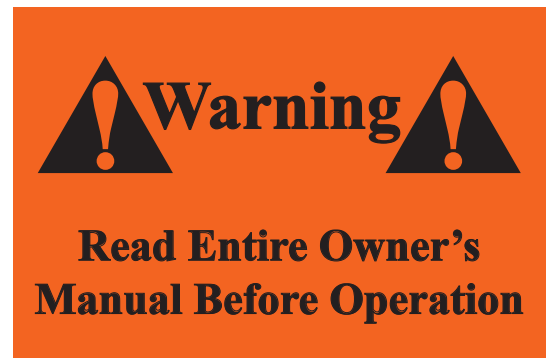

Figure 1: Owner's Manual Decal (DE39)
- Be aware of the location of the owner's manual warning decal on the foam marker's frame. Always replace any warning decals that are not legible or are missing (Figure 1).